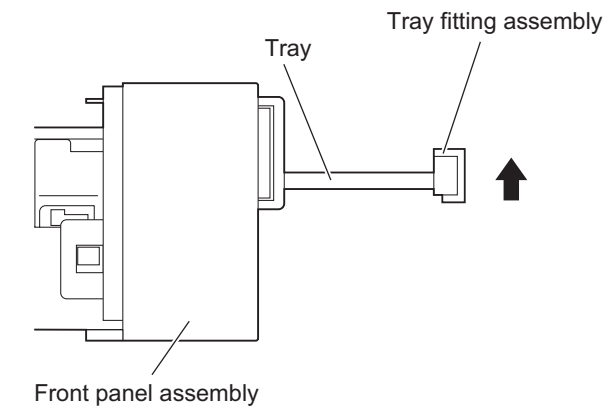

Fig.6
- Push the tray fitting assembly of the tray in the direction of the arrow and then remove the tray fitting assembly. (See Fig.6.)